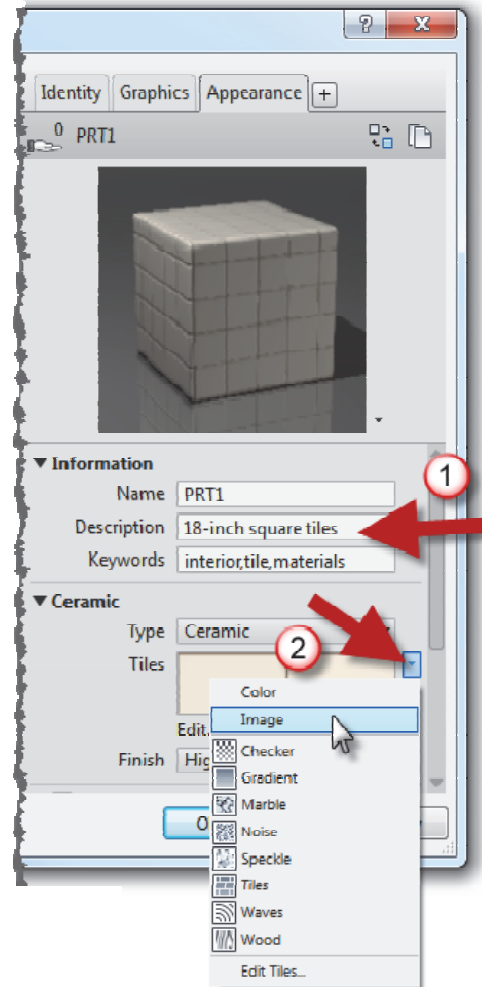

FIGURE 4-4.17 Appearance tab
- 67. Back in the *Material Browser*, with PRT1 selected, adjust the *Description* as shown in Figure 4-4.17.
- 68. Select the down-arrow to the right of the *Tiles* preview and select **Image** (Figure 4-4.17).